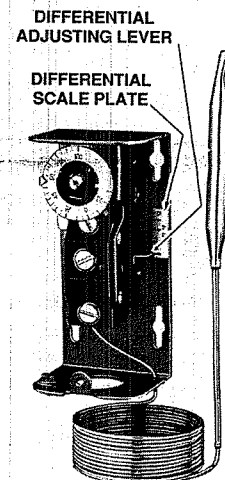
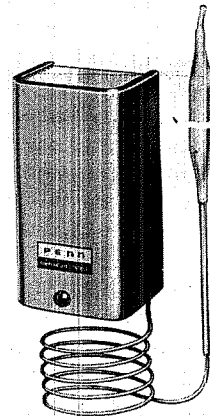
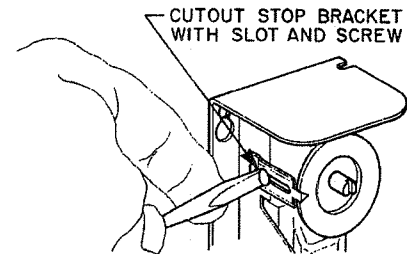

Fig. 1 — An A19 with external range adjustment and screwdriver slot.
Fig. 7 — An A19 with solid cover and concealed adjustment.
Fig. 8 — All models have a screw type cutout stop. The stop screw must be loosened and moved to the stop setting desired. Tighten screw after setting is made.
The A19 temperature controls may be supplied with an external range adjustment and screwdriver slot as shown in Fig. 1, range adjustment knob or solid cover as shown in Fig. 7. Solid cover models with calibrated dial are adjusted by removing the cover and moving dial so the desired setting is in line with the dial pointer on the stop bracket. (See Fig. 8.) Convertible adjustment models can be field converted from concealed screwdriver slot adjustment to knob adjustment or external screwdriver slot adjustment. They are supplied with a snap-in plug in the cover to provide
Models with adjustable differential and ranges of 20/80° F (-5/28° C), -30/50° F (-35/10° C) and -30/100° F (-35/40° C) have a differential scale plate showing differential in degrees. Other ranges have a scale plate (see Fig. 1) with a multiplier shown. For example when "MIN" differential is 5F° (2.8C°) then x2 is 10F° (5.6C°), x3 is 15F° (8.3C°), etc. The controls are supplied with adjusting lever at minimum differential stamped on the control. To adjust move the lever to the differential required.
3. Loosen the cutout stop screw, slide the screw to the front of the temperature control against the plastic stop behind the dial and tighten the screw. (See Fig. 8.) Sometimes an exact stop setting is not possible and stop must be set to the closest step corresponding to dial setting required.